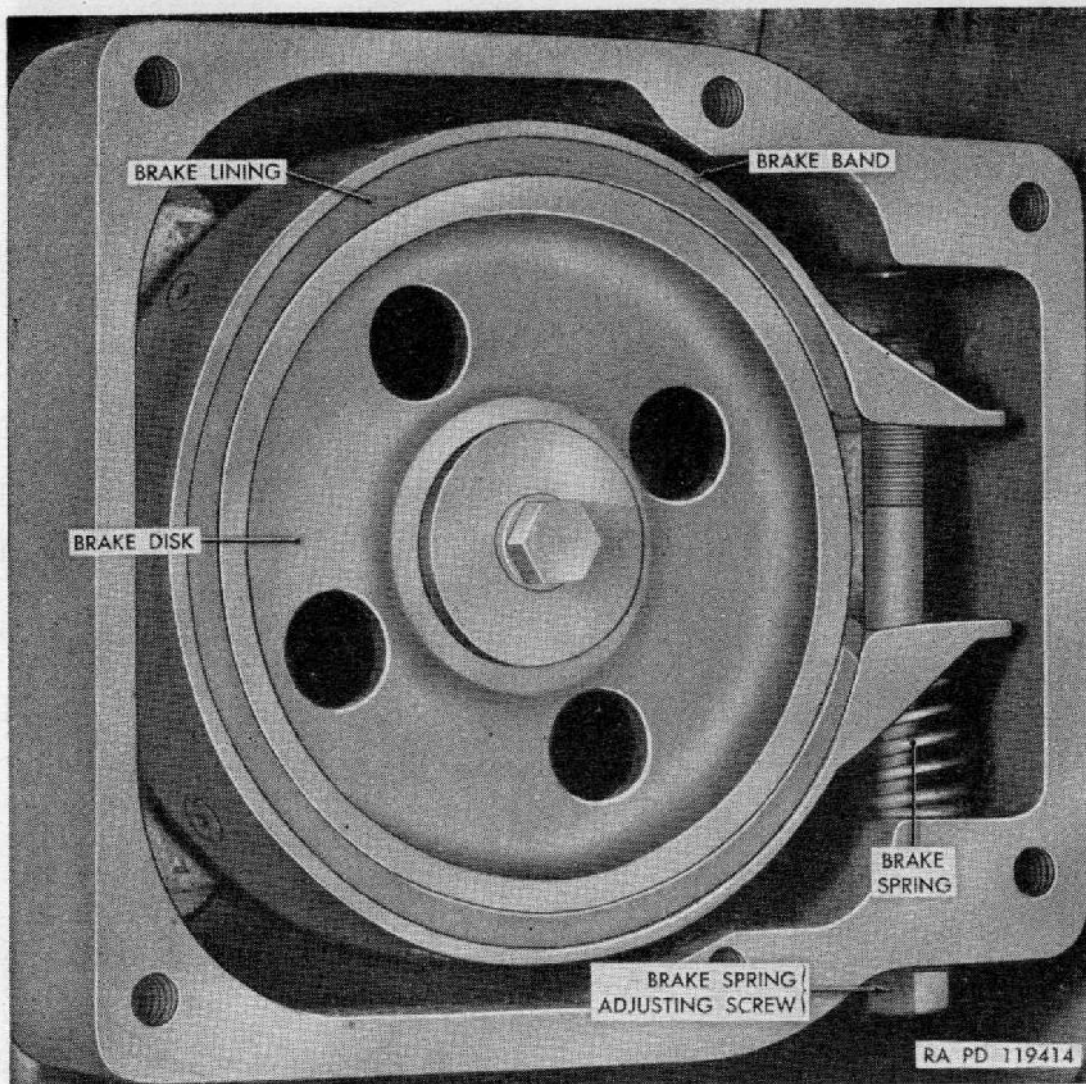

Figure 135. Winch automatic brake.
b. AUTOMATIC BRAKE (fig. 135).
- (1) *Test.* With truck parked at top of a steep grade, start pulling another vehicle up the incline, using winch only. When vehicle is part way up decline, shift power-take-off into neu-
- (2) *Adjustment.* Increase tension on brake spring by turning the adjusting screw on underside of brake case (fig. 135). Tighten one-half turn and test. Do not tighten more than one-half turn before testing.
a. REMOVAL. Remove six screws and lock washers attaching cover to brake case, and remove cover and gasket. Loosen adjusting screw on underside of brake case (fig. 135). Remove screw, washer, gasket, and spring. Pull brake band from brake disk.